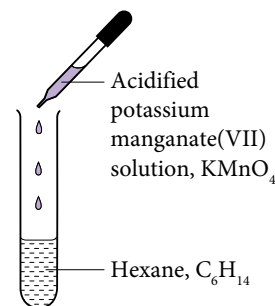

Figure 2.11
- Add 2 – 3 drops of acidified potassium manganate(VII), KMnO_4 solution to hexane, C_6H_{14} , as shown in Figure 2.11.